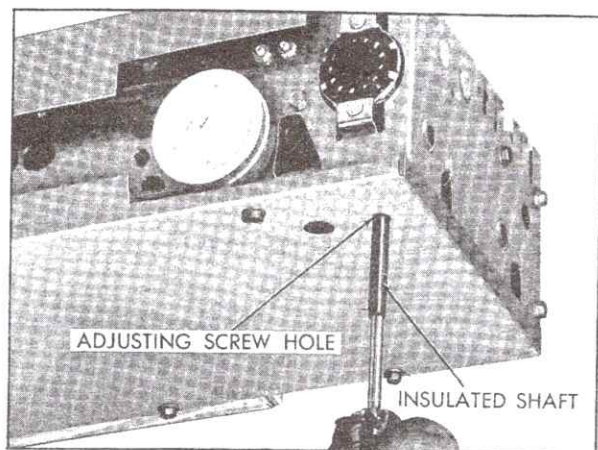

Fig. 15-6 Stereo Balance Adjustment
2. With radio playing and fader control turned fully clockwise, insert long screwdriver with insulation on shaft through opening on lower rear left corner of radio, Fig. 15-6. Rotate balance control adjustment clockwise or counterclockwise until the sound in the left and right speakers appears to have equal volume.